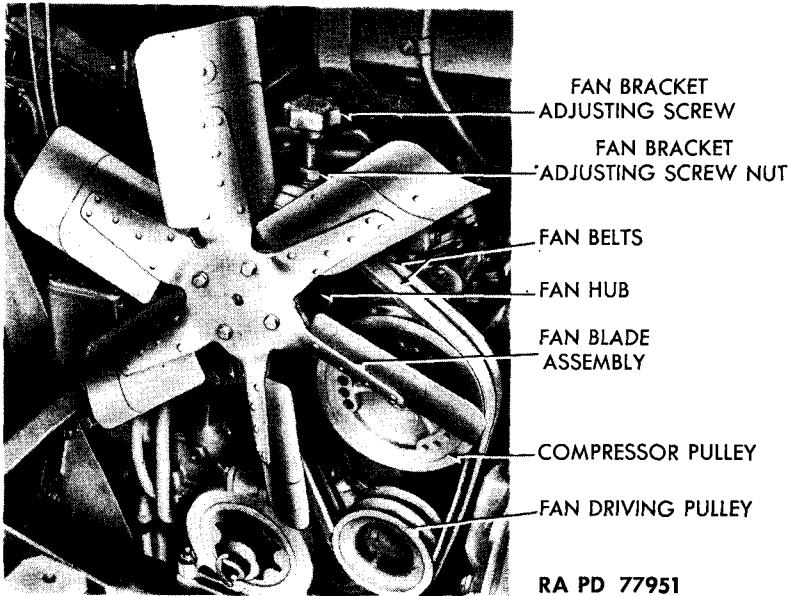

Figure 42 — Fan and Belts Installed
(1) DESCRIPTION (fig. 42). The fan is the roller-bearing type mounted on a bracket at front of engine and belt driven by a pulley on the engine accessory shaft.
(2) TABULATED DATA.
(5) **REMOVE FAN BLADE ASSEMBLY** (fig. 42). Remove four cap screws that secure fan blade assembly to fan hub. Lower fan blades through space between radiator and motor. Take off gasket.
(1) **INSTALL FAN HUB AND PULLEY** (fig. 42). Install fan hub and pulley by fastening bracket to engine with three hex screws and one slotted countersunk screw. Install fan belts.
(2) **INSTALL FAN BLADE ASSEMBLY** (fig. 42). Install fan blade assembly, using a new gasket, and secure assembly to hub with four hex screws. Turn fan adjusting screw to tighten fan belts until they have 1/2-inch play. Tighten fan adjusting screw lock nut. Tighten fan bracket clamp nut.
(1) **DESCRIPTION** (fig. 42). Two V-type fan belts are mounted on grooved pulleys connected to fan, air compressor, and accessory drive shaft, and drive the fan and air compressor. Belts are rubber and fabric composition.
b. Adjustment (fig. 42). Loosen fan bracket adjusting screw nut, and fan spindle jam nut. Turn fan bracket adjusting screw clockwise to tighten, counterclockwise to loosen. Deflection permissible is between 1/2 inch and 3/4 inch. After adjustment is made, tighten bracket adjusting screw nut and spindle jam nut.
c. Removal (fig. 42). Loosen bracket adjusting screw nut and spindle jam nut, and turn adjusting screw to force spindle down. Lift belts from pulleys.
d. Installation (fig. 42). Position belts on pulleys. Turn adjusting screw until belts can be flexed from 1/2 inch to 3/4 inch at mid-position when pressed with fingers. Tighten adjusting screw nut and spindle jam nut.